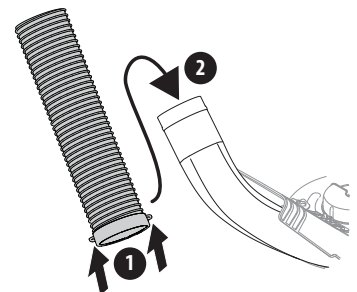

Figure 21
- Slide the hose over the boot mounted on the cutting deck, as shown in Figure 21.